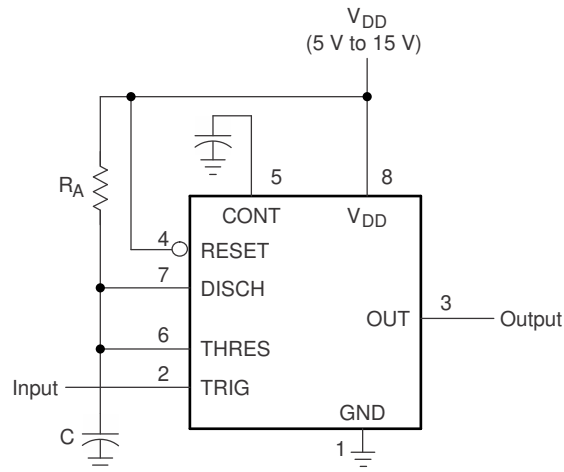
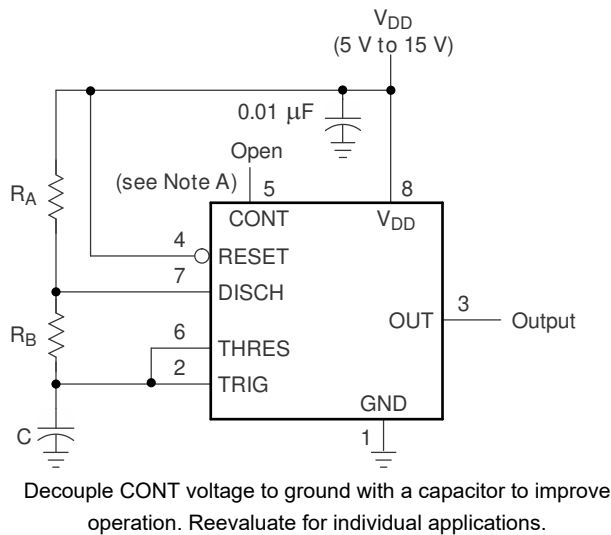

Figure 6-2. Circuit for Monostable Operation
Figure 6-5. Circuit for Astable Operation
(1) R_A , R_B , and C_T are as defined in Figure 6-5.
For monostable operation, Figure 6-2 shows how any of these timers can be connected. If the output is low, application of a negative-going pulse to the trigger (TRIG) sets the internal latch; the output goes high, and discharge pin (DISCH) becomes open drain. Capacitor C then is charged through R_A until the voltage across the capacitor reaches the threshold voltage of the threshold (THRES) input. If TRIG has returned to a high level, the output of the threshold comparator resets the internal latch, the output goes low, the discharge pin goes low, which quickly discharges capacitor C.
As shown in Figure 6-5, adding a second resistor, R_B , to the circuit of Figure 6-2 and connecting the trigger input to the threshold input causes the timer to self-trigger and run as a multivibrator. The capacitor C charges through R_A and R_B and then discharges through R_B only. Therefore, the duty cycle is controlled by the values of R_A and R_B .
By adjusting the length of the timing cycle, the basic circuit of Figure 6-2 can be made to operate as a frequency divider. Figure 6-9 shows a divide-by-three circuit that makes use of the fact that retriggering cannot occur during the timing cycle.
See Figure 6-2